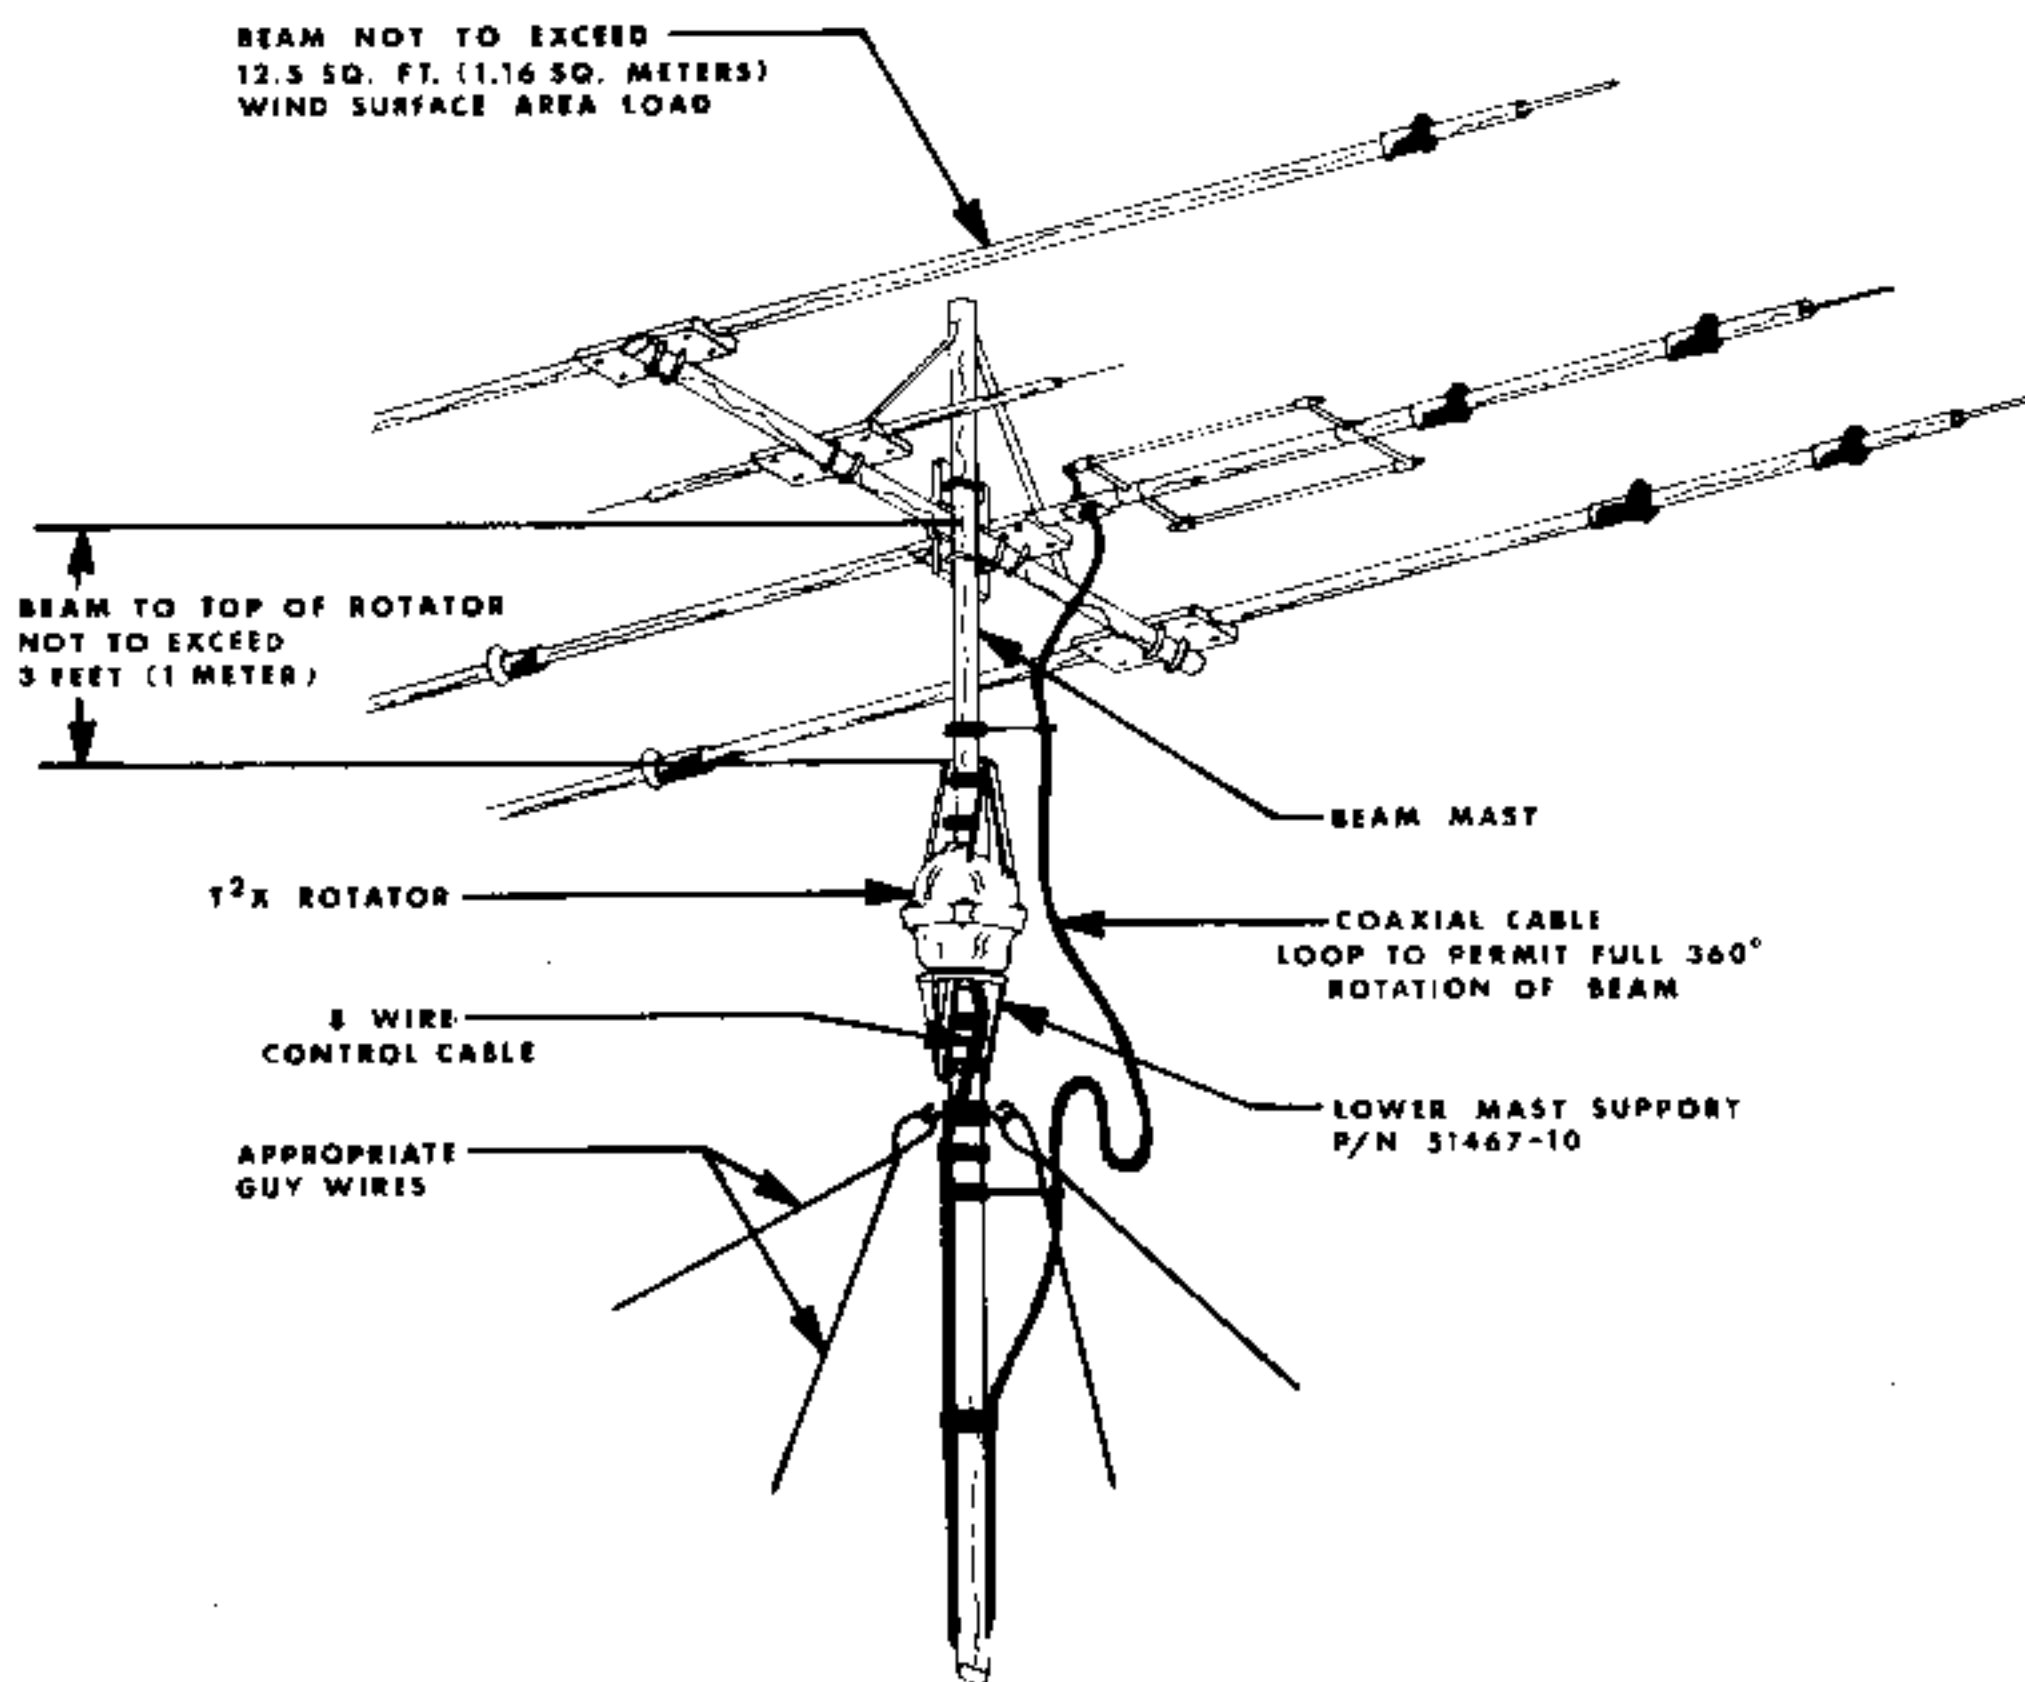

FIG. 3 - POLE MOUNTING
- 3. A telescoping or other type as shown, see figure 3, can also be used. This installation is similar to #2 above and requires the optional Heavy Duty Lower Mast Support Kit and must be derated to 12.5 square feet (1.16M²)